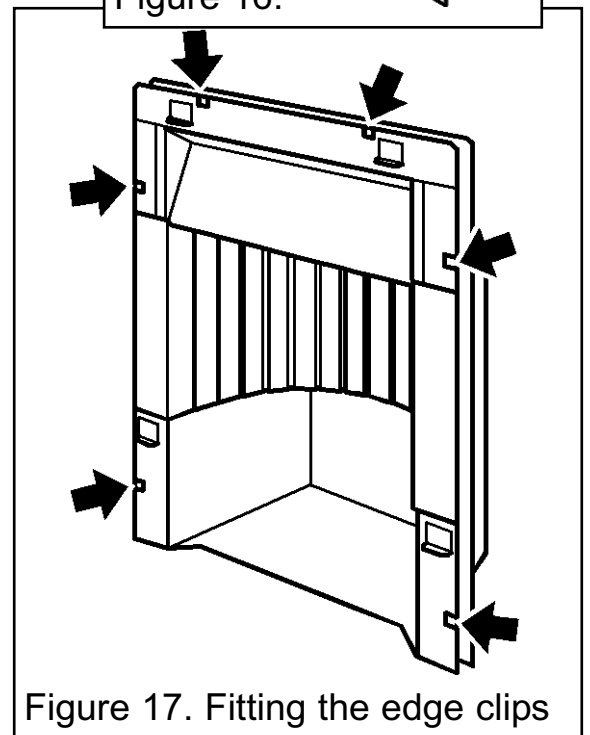

Figure 17. Fitting the edge clips
**12.** Locate the spacer frame to the rear of the hotbox (**The foam seal must be to the rear of the spacer frame and NOT against the flanges of the hotbox**). Secure the spacer frame to the hotbox using the six edge clips supplied. Position these as in figure 17.